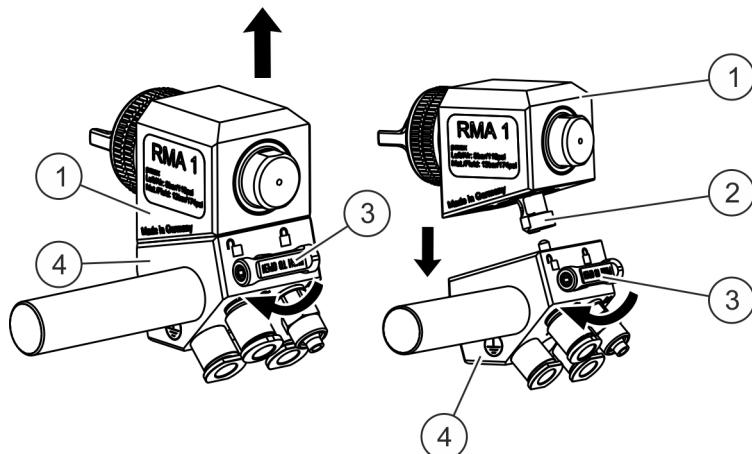

Fig. 4: Removing the main elements - plugged in design
1. Turn the lever (Fig. 4/3) to the unlocking position.
2. Press the lever (Fig. 4/3) in and pull the main element (Fig. 4/1) off the adapter (Fig. 4/4).
2. Insert the main element (Fig. 4/1) with the clamp bolt (Fig. 4/2) into the adapter (Fig. 4/4) and allow them to lock into place.
3. Turn the lever (Fig. 4/3) to the locking position.